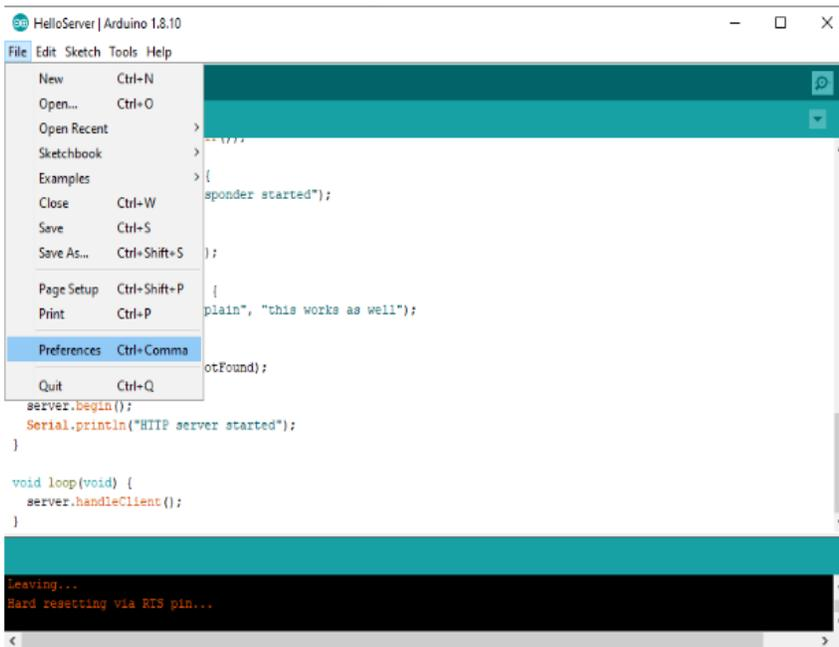

Figure 2.16: Step 1 Installing ESP32 or ESP8266
- Refer Figure 2.16 connect the board to your computer. **NodeMCU ESP 32 or NodeMCU ESP 8266** board uses a microUSB port.